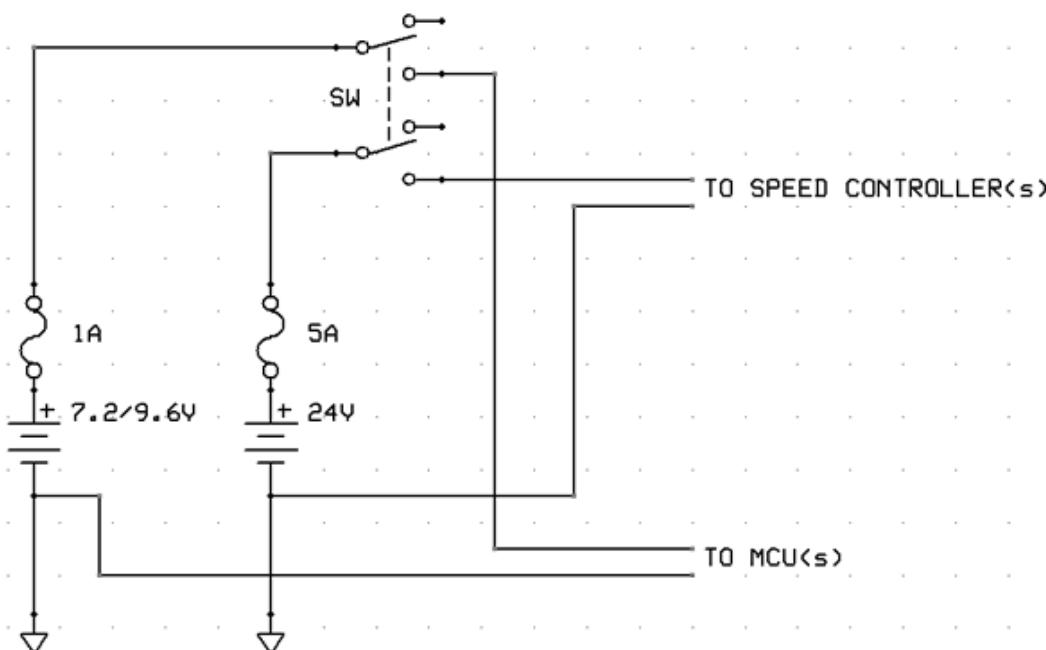

Figure 40: Power Schematic
1. Refer to Figure 40 below for details of how to wire the power for your robot.
3. Wire the fuses in as shown in the schematic in Figure 40